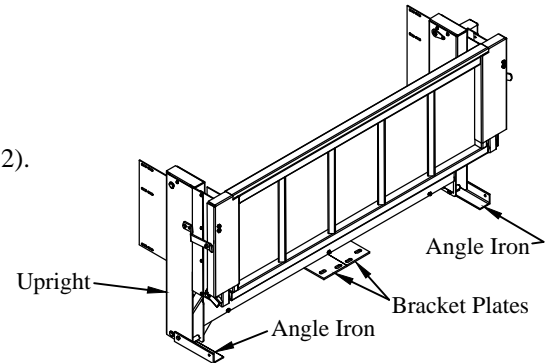

Figure 2: Complete liftgate (**G²** shown).
4. Unbolt the two (2) angle irons attached to the liftgate uprights- **G² only** (Figure 2).
6. Remove the two (2) bracket plates attached to the liftgate- **G² only** (Figure 2).